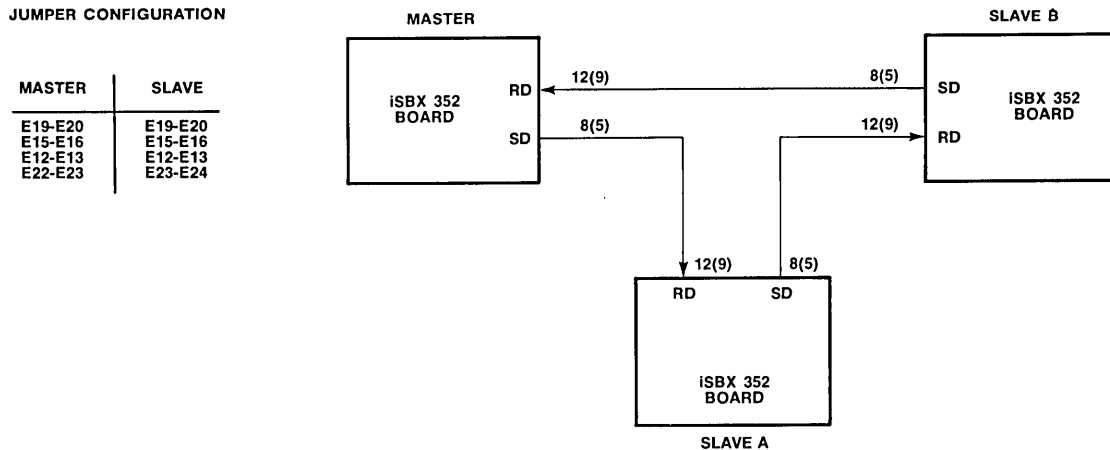

Figure 2-6. Self-Clocking SDLC Loop Network Configuration Example
**2-16. SDLC LOOP NETWORK APPLICATION (either Self-Clocking or Synchronous).** The SDLC Loop network application is shown in Figure 2-6. In an SDLC loop network application, the iSBX 352 board may require operation with an RS422/449 interface; an RS232C interface does not provide the required drive capability when operating over long cable lengths.